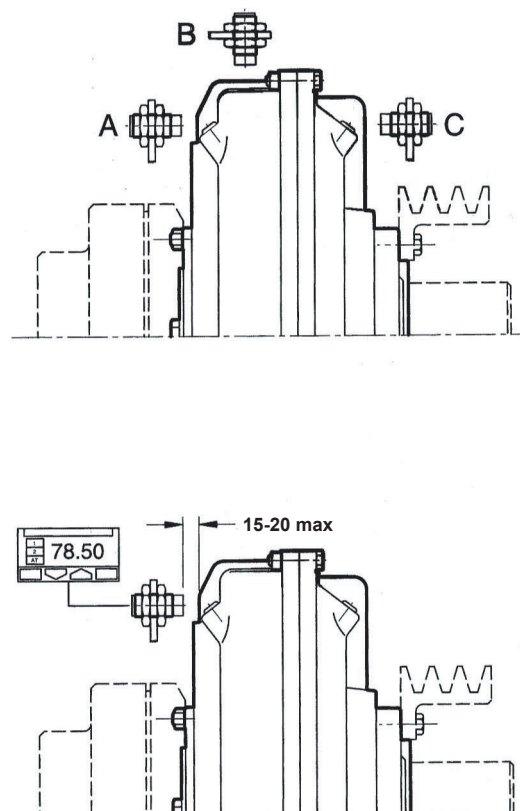

FIG. 13
The function of the timers respect to the state of the relays is diagrammed in FIG. 13.
5.4 INFRARED CONTROLLER (Fig. 13)
The temperature is shown on the display that also allows for 2 alarm levels to be fixed (logical alarm on the first, relay alarm on the second). The sensor must be positioned in proximity of the outer impeller or of the cover of the fluid coupling, choosing for example the possibility illustrated in Fig. 13.